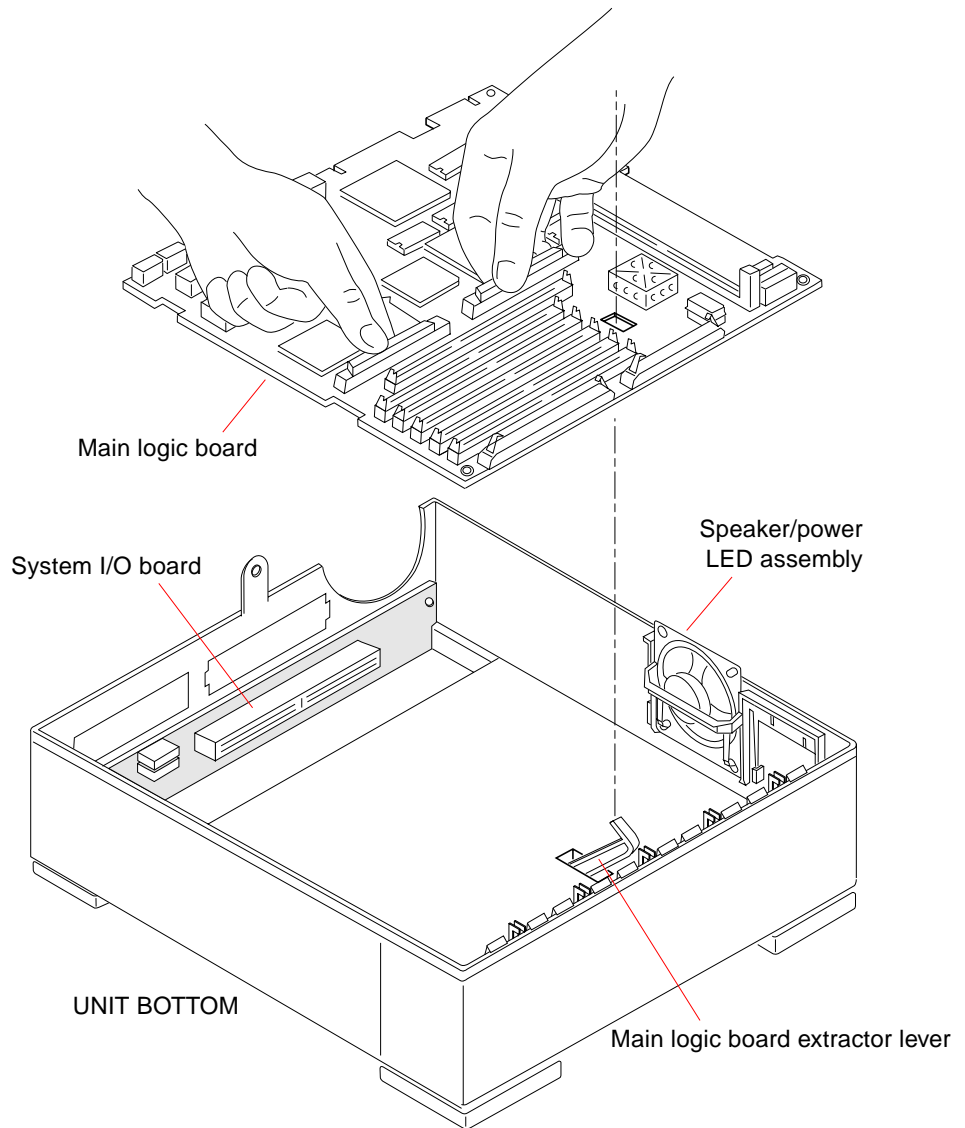

FIGURE 8-6 Removing and Replacing the Main Logic Board
3. Grasp the board by the SBus connectors with both hands. Tilt the board slightly to avoid the speaker assembly and lift it up and out of the system unit (see FIGURE 8-6). Avoid handling any of the delicate electronic components or touching any of the circuit board traces.
- a. **Grasp the board by the SBus connectors with both hands. Insert the main logic board extractor lever through the rectangular cutout in the main logic board (see FIGURE 8-6). Avoid handling any of the delicate electronic components or touching any of the circuit board traces.**